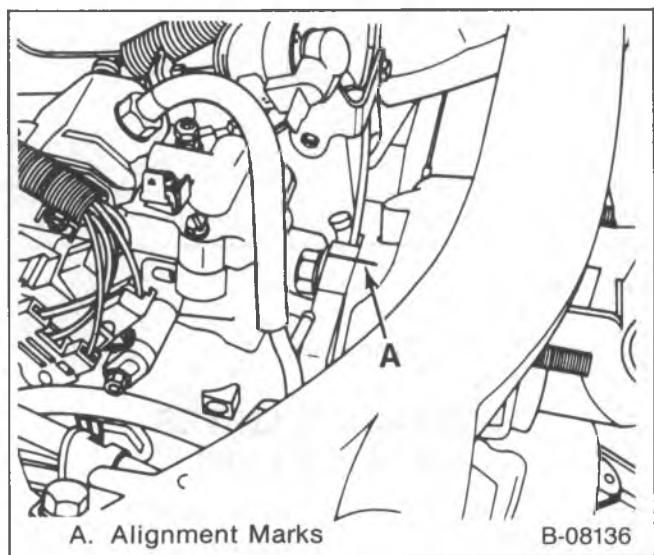

Figure 45—Injection Pump Timing Marks
Adjust (Figure 45)
- Injection pump timing. For the engine to be properly timed, the marks on the top of the engine front cover must be aligned with the marks on the injection pump flange (figure 45). The engine must be off when the timing is reset.